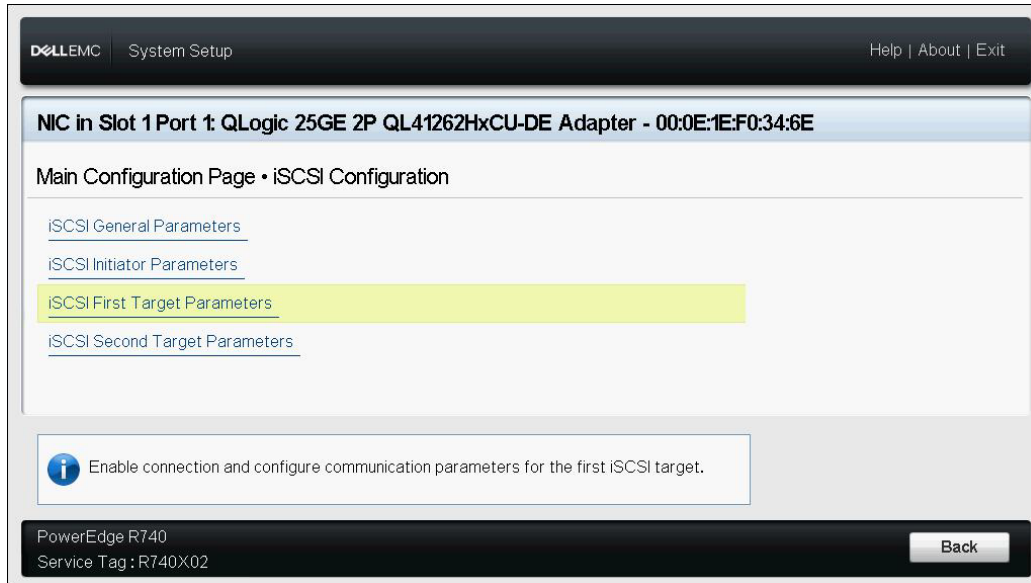

Figure 6-10. System Setup: Selecting iSCSI First Target Parameters
8. Select **iSCSI First Target Parameters** (Figure 6-10), and then press ENTER.